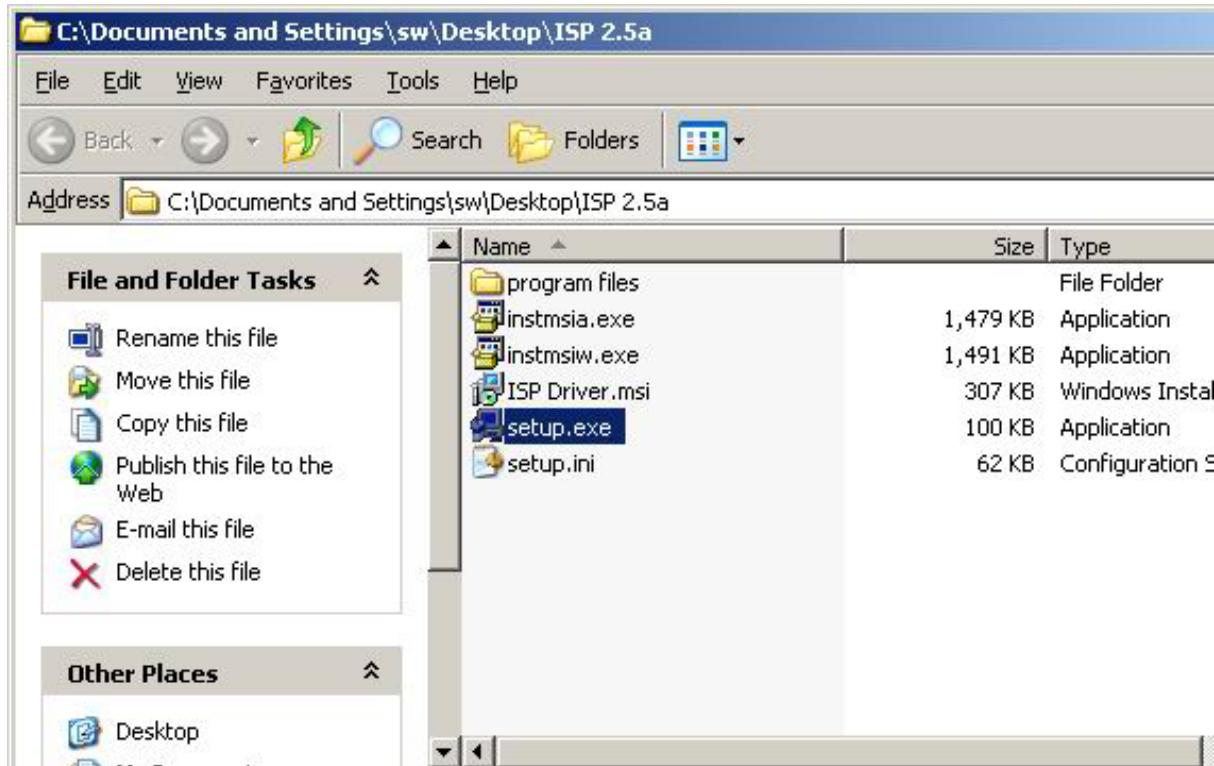

Fig 1.0
- The files extracted from the ZIP file are listed in Fig 1.0. Double-click setup.exe to install.